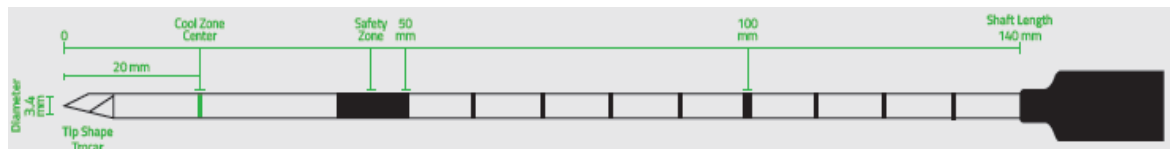

Figure 54: Illustration of FAP7200000 cryoprobe Markings on the cryoprobe.
2. Center of the cool zone must be in the center of the tissue to be ablated (see Figure 54 for the distance of the cool zone from the tip).